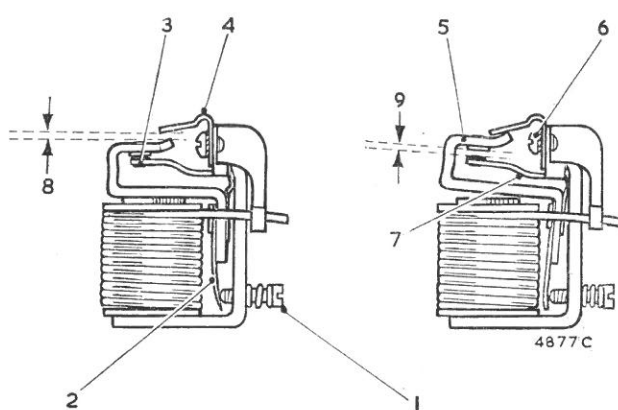

Fig. N.6
- (3) Unscrew the cut-out adjusting screw until it is clear of the armature tension spring. Slacken the armature securing screws.
- (4) Press the armature down against the copper-sprayed core and tighten the securing screws.
- (5) Bend the armature stop arm until the gap between it and the tongue is .030 in. (.76 mm.) when the armature is pressed squarely against the core face (8) (Fig. N.6).
- (6) Bend the fixed contact blade so that there is a gap of .010 to .020 in. (.25 to .50 mm.) between the contact points when the armature is free.
- (7) Reset the cut-out adjusting screw.